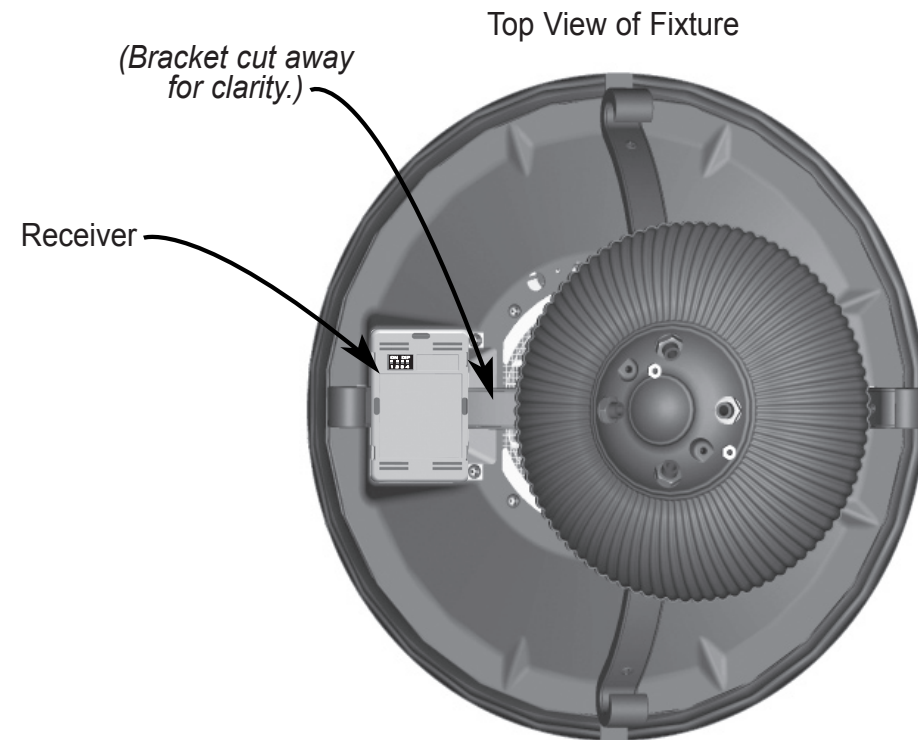

Figure 1 - Receiver
- 1) Looking at the fixture from its top, locate the Receiver, as shown in Figure 1.